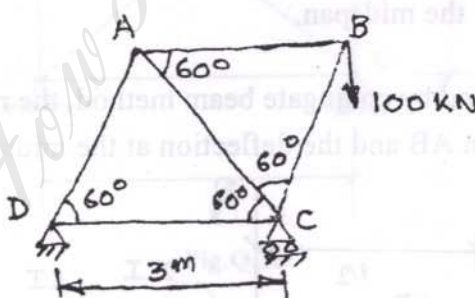

Fig.Q.2
2. Find the horizontal deflection of node B by virtual work method.  $AE = \text{constant}$  for all members shown in Fig.Q.2.